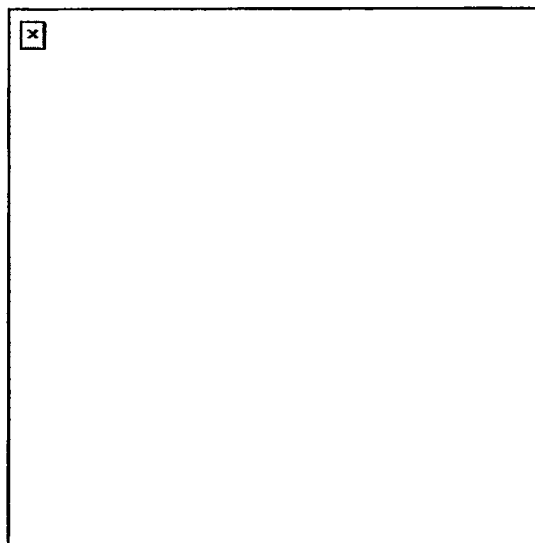

Figure 191-381-1370-28
- d. Slap the ground with the soles of your feet and the palms of your hands simultaneously to absorb the impact of your fall (Figure 191-381-1370-28).